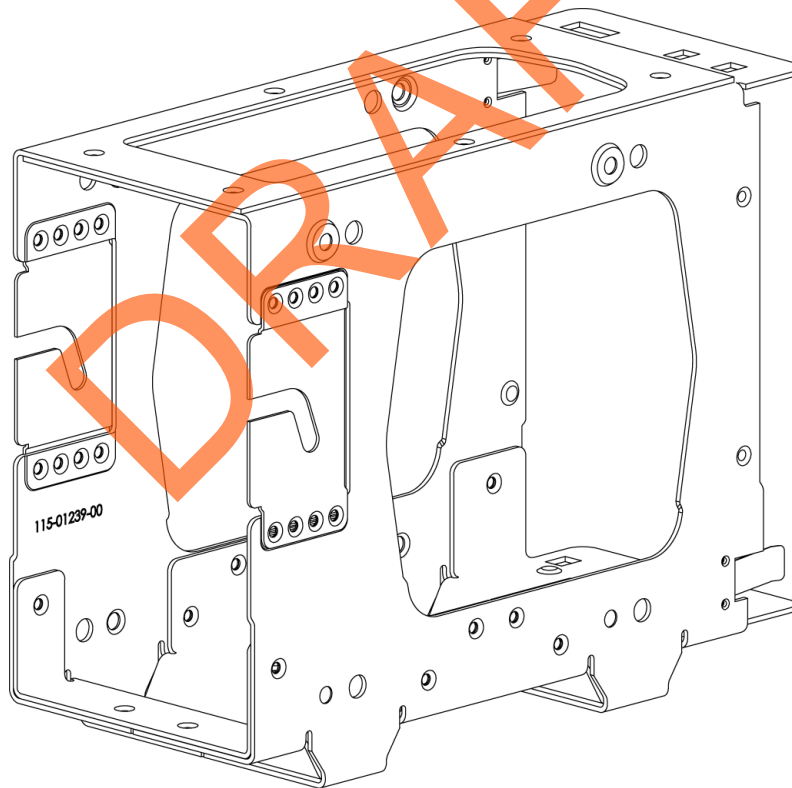
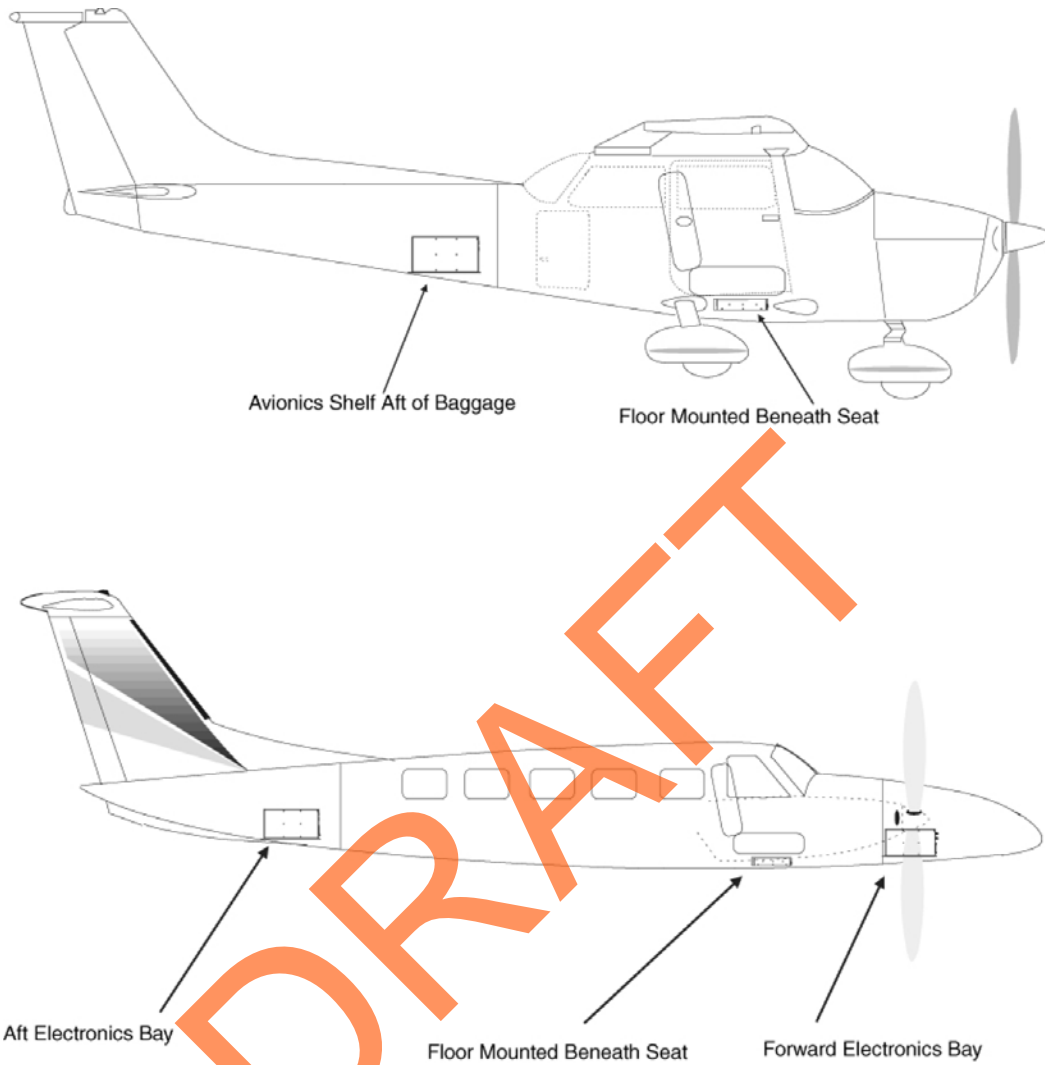

Figure 2-3. GIA 63(W) Standalone Rack
Figure 2-5. GIA 63(W) Standalone Rack, Suggested Mounting Locations
Figure 2-3 and Figure B-4 show the GIA 63(W) remote mounted stand-alone rack. The remote rack can be installed in a variety of locations, such as the electronics bay, under a seat, or on an avionics shelf behind the rear baggage area. Refer to Figure 2-5 for suggested mounting locations. Leave sufficient clearance between the GIA 63(W) and any obstruction. The rack should be mounted to a surface known to have sufficient structural integrity to withstand additional inertia forces imposed by a 7.5-pound (3.4 kg) unit.